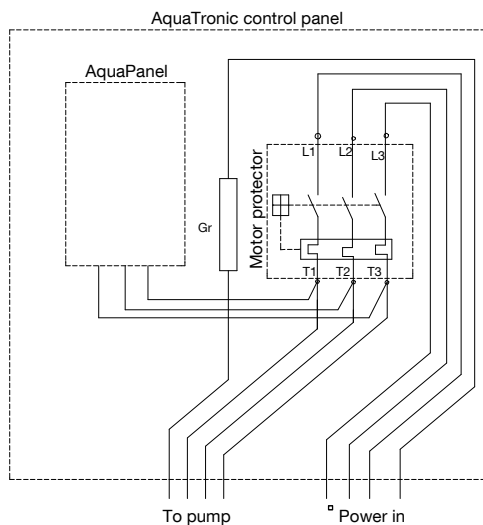

Figure 1. Wiring diagram AquaTronic control panel
2. If pump is not connected, open lid on panel, make sure power is disconnected and connect pump cable in accordance with connection diagram. (Fig. 1)